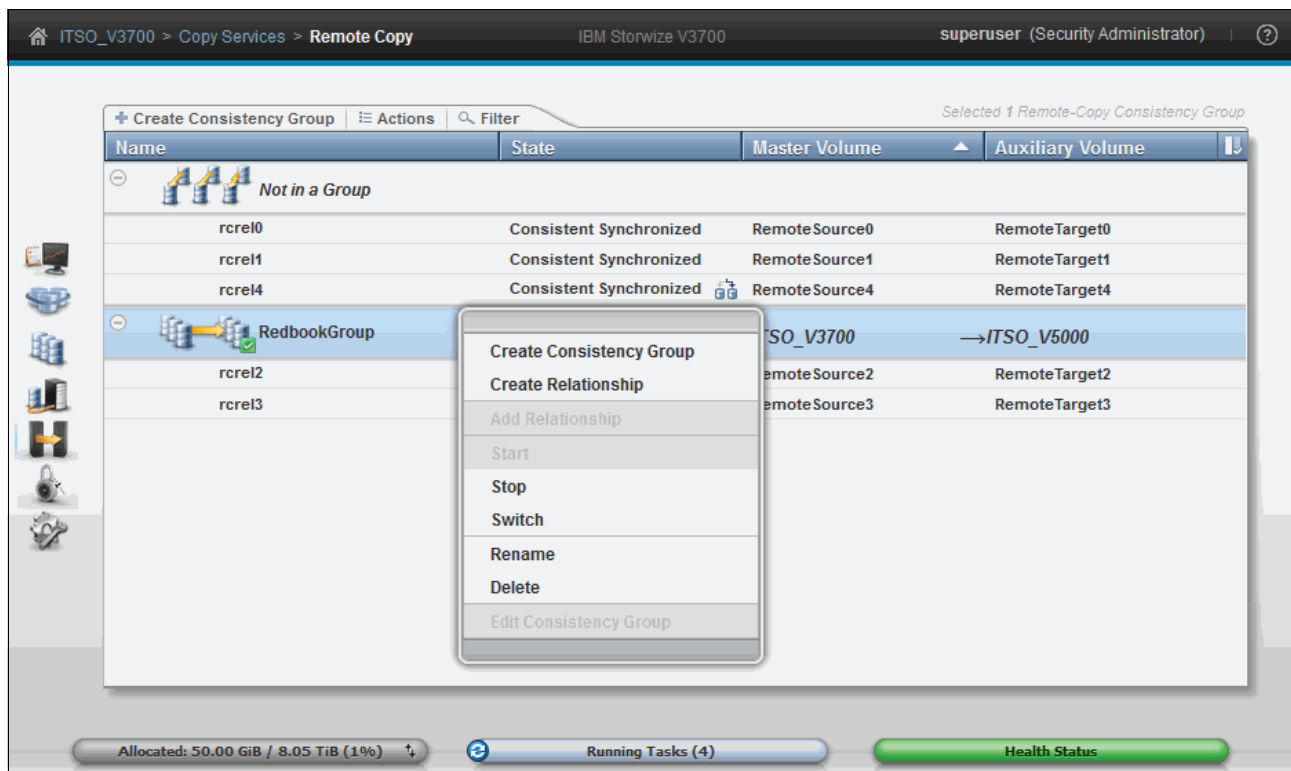

Figure 10-131 Drop-down menu options
17. Similarly, beneath the Relationship function icon are the Remote Copy relationships in this consistency group. The actions on the Remote Copy relationships can be applied here by using the **Actions** menu or right-clicking the relationships, as shown in Figure 10-131.